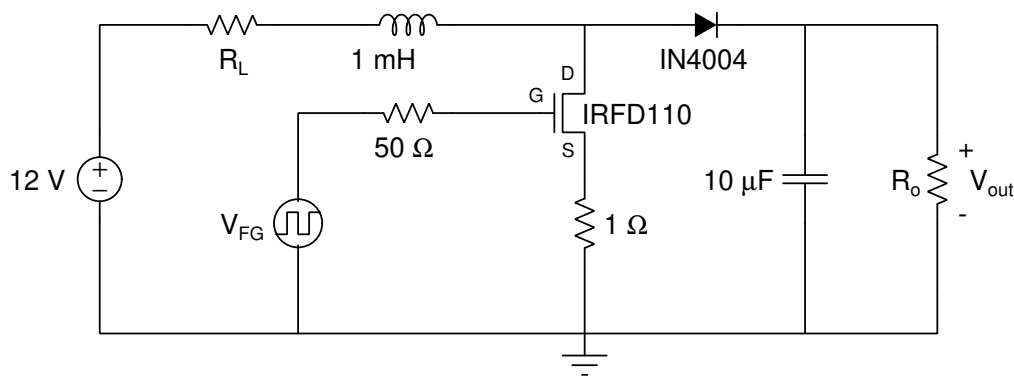

Figure 3: Boost converter circuit for NGSpice simulation and for implementation.
- (f) The period of the square wave (T) used to drive switch S_1 is $t_1 + t_2$; the frequency (f) is $1/T$, and the duty cycle (δ) is t_1/T . What are the values of T , f , and δ for the FG?
2. Simulate the boost converter circuit shown in Figure 3. Include the ESR of the inductor. Also include a $1\ \Omega$ resistor between the S terminal of the transistor and ground to allow for the simulation of the current through the transistor.
1. Build and test the boost converter circuit shown in Figure 3 using the component values and FG settings determined in step 2i of the Pre-Lab. Check the signal on the scope to make sure it is correct before applying it to the circuit.